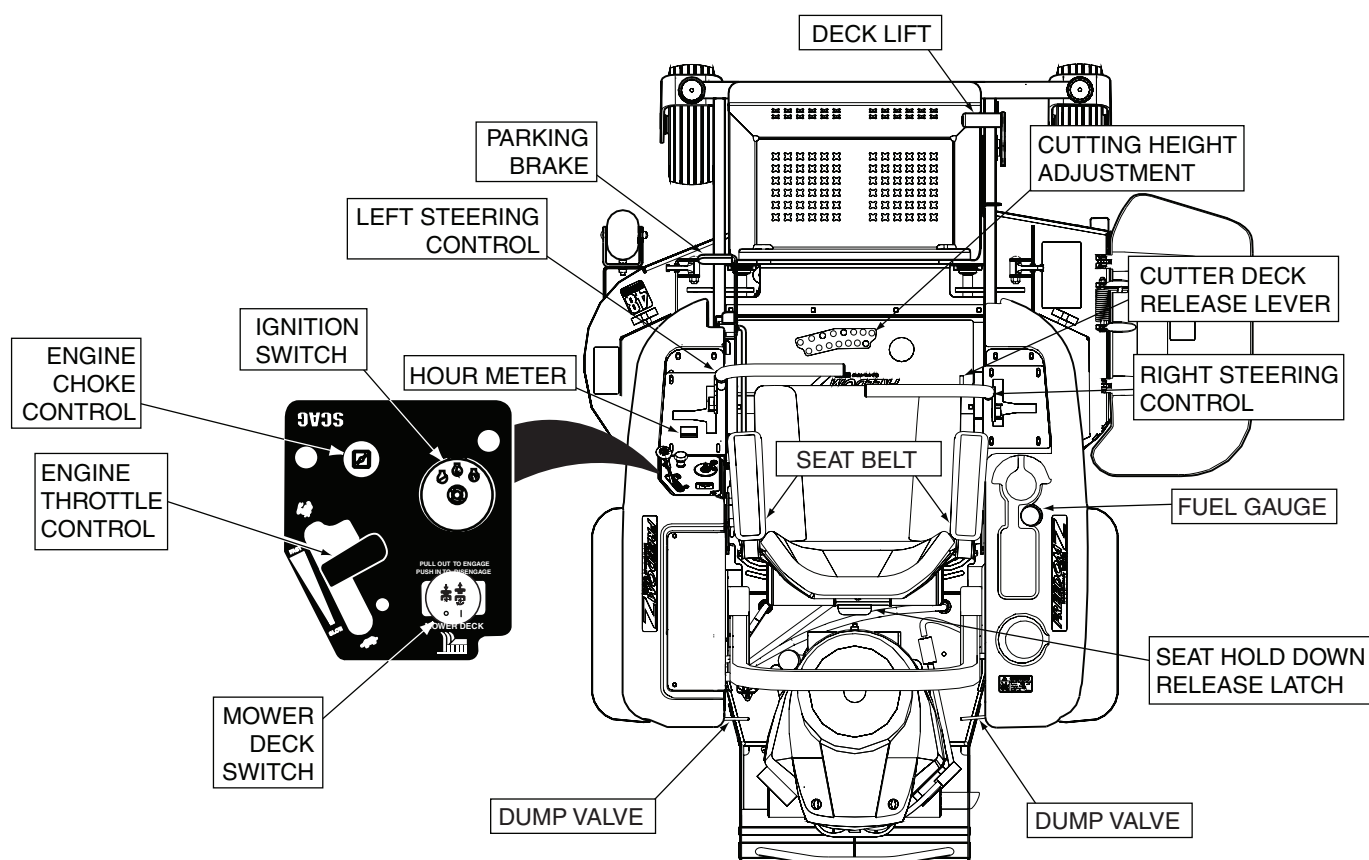

Figure 4-1. Controls and Instruments
1. **Ignition Switch (Figure 4-1).** The ignition switch is used to start the engine and has three positions; OFF, ON, and START.
2. **Mower Deck Switch (Figure 4-1).** Used to engage and disengage the mower drive system. Pulling up on the switch will engage the deck drive. Pushing down on the switch will disengage the deck drive.
3. **Engine Choke Control (Figure 4-1).** Used to start a cold engine.
4. **Engine Throttle Control (Figure 4-1).** Used to control the engine speed. Pushing the lever forward increases engine speed. Pulling the lever back decreases engine speed. Full back position is the IDLE position. Full forward is the cutting position.
5. **Fuel Gauge (Figure 4-1).** Indicates the amount of fuel in the fuel tank.
6. **Hourmeter (Figure 4-1).** Indicates the number of hours the engine has been operated. It operates whenever the engine is running. Has preset maintenance reminders for engine and hydraulic system oil changes. Will start flashing scheduled maintenance 2 hours before preset time and continue flashing until 2 hours after. Automatically resets.
7. **Fuse Holders (Figure 4-1).** Two 20-amp fuses protect the mower's electrical system. To replace fuses, pull fuse out of the socket and install a new fuse.
8. **Left Steering Control (Figure 4-1).** Used to control the mower's left wheel when traveling forward or reverse.
9. **Right Steering Control (Figure 4-1).** Used to control the mower's right wheel when traveling forward or reverse.
10. **Parking Brake Control (Figure 4-1).** Used to engage and disengage the parking brakes. Pull the lever back to engage the parking brakes. Push the lever forward to disengage the parking brakes.
12. **Deck Lift Foot Lever (Figure 4-1).** Used to raise and lower the cutter deck.
13. **Cutting Height Adjustment (Figure 4-1).** Used to set the cutter deck at the desired cutting height.
14. **Deck Release Lever (Figure 4-1).** Used to lock the cutter deck in the transport position. Push the foot pedal forward and pull back on the release lever to release the cutter deck for normal mowing.
15. **Seat Belt (Figure 4-1).** Used to secure the operator. Seat belt must be worn at all times during operation.
16. **Seat Hold Down Release Latch (Figure 4-1).** Located behind the seat. Used to secure the seat in the operator's position. Release the latch to gain access under the seat.
Do not travel forward over a curb. The mower will hang up on the curb. Raise the deck and travel backwards over the curb at a 45 degree angle. (See Figure 4-1 item 12 for cutter deck raising description.)